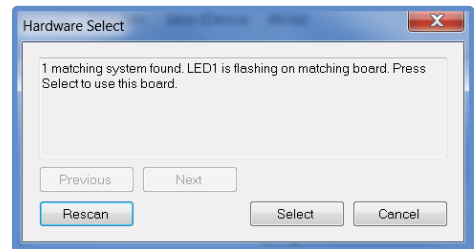
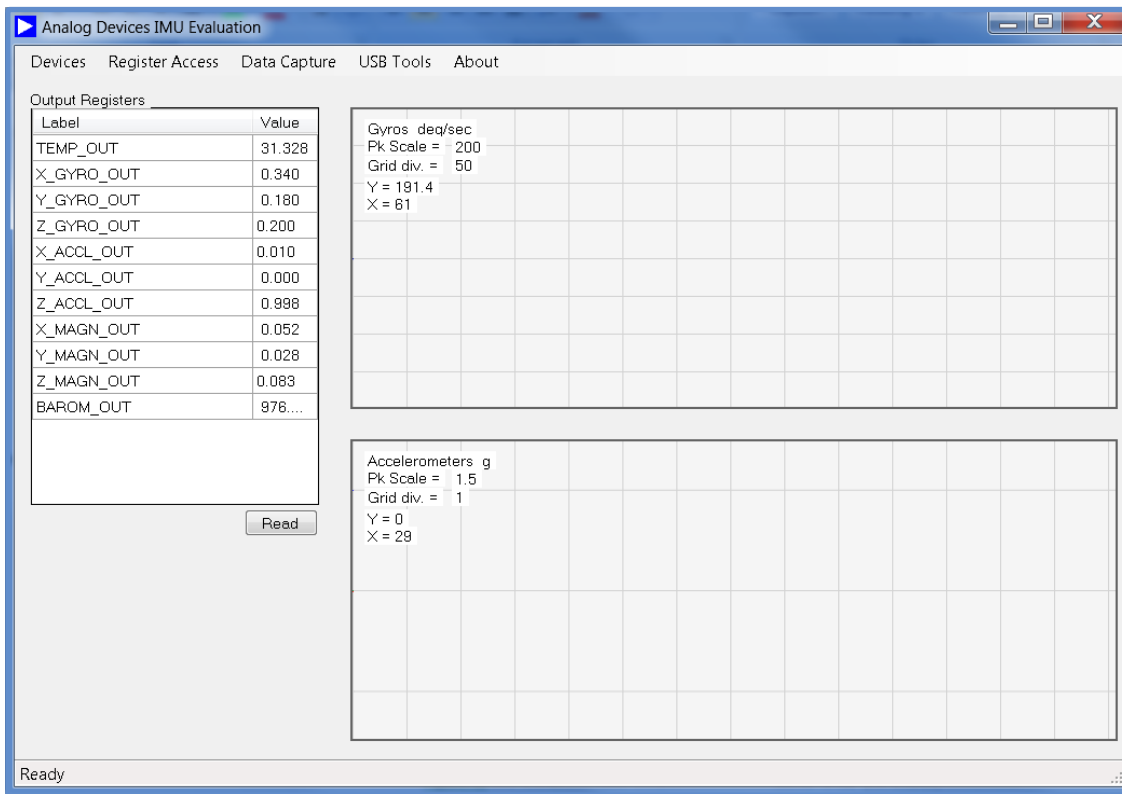

Figure 11. Hardware Select Window, **Select** Option Enabled
Figure 12. IMU Evaluation Main Window
4. LED1 begins blinking and the **Hardware Select** window updates with an option to select the device (see Figure 11). Click **Select**. The program completes the connection and opens the main window (see Figure 12).
The main window (see Figure 12) provides waveform recorders for basic demonstration, along with the following menu bar options: **Devices** (device selection), **Register Access**, **Data Capture**, **USB Tools**, and **About** (basic information).